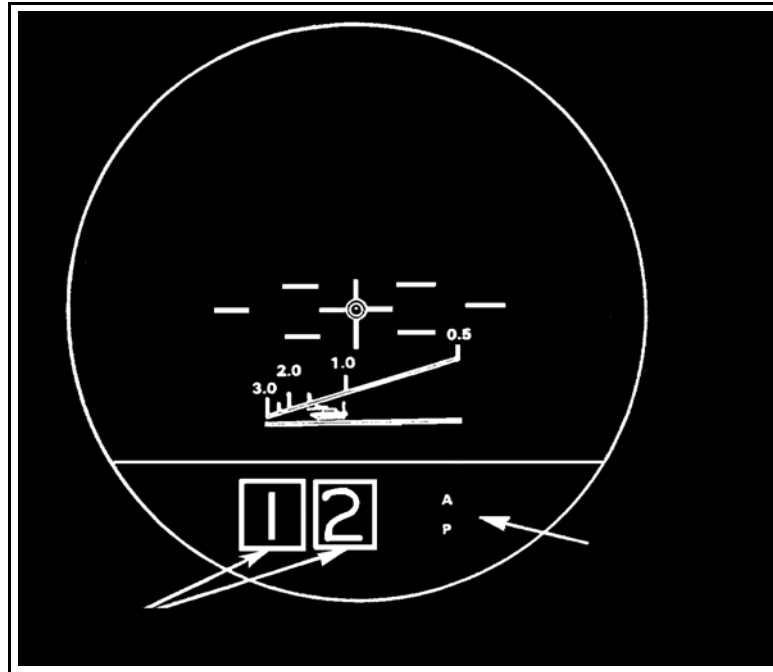

Figure 3. Stadia line.
- b. Read the target's range at the point where the top of the target or the top of the hull appears to touch the stadia line (Figure 3).
Note: The status indicator in the bottom of the reticle shows the type of ammunition selected (HE or AP) and the range to target selected on the range control knob (12 equals 1,200 meters). Do not move from the sight while setting the range on the ISU (Figure 3).